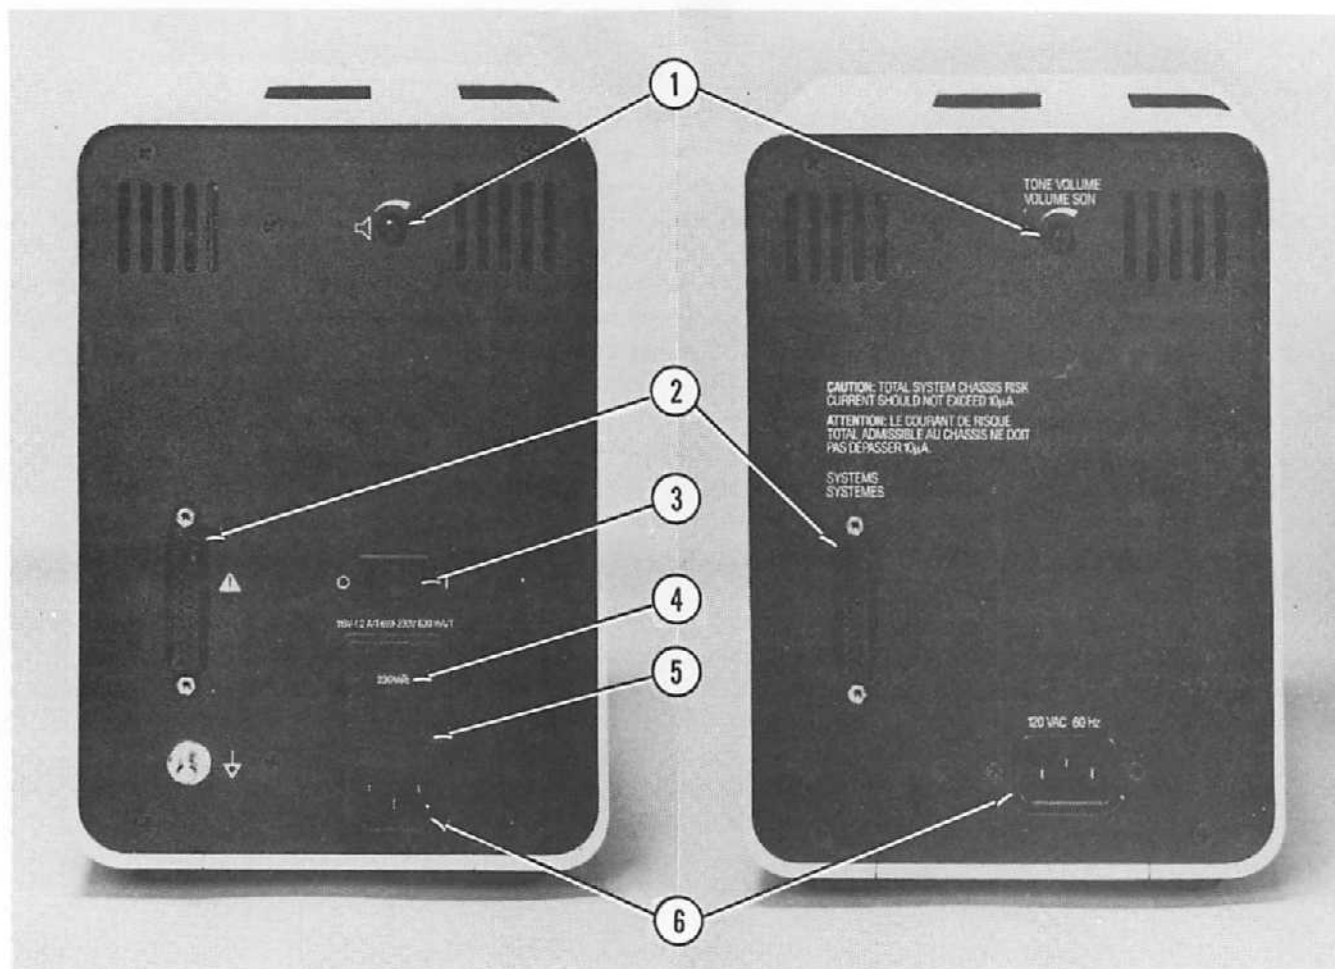

FIGURE 2-3. LS 200 REAR PANEL CONTROLS
- B. Figure 2-3 provides the rear panel view of the LS 200. Each item on this figure is keyed to a corresponding listing in Table 2-4. The table lists the nomenclature of each item and briefly describes its function.